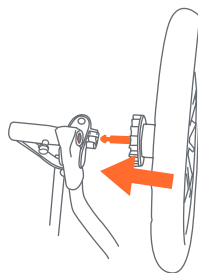

Fig. 5a
- Press the rear wheel posts into the rear frame hub until it clicks into place (Fig. 5a).